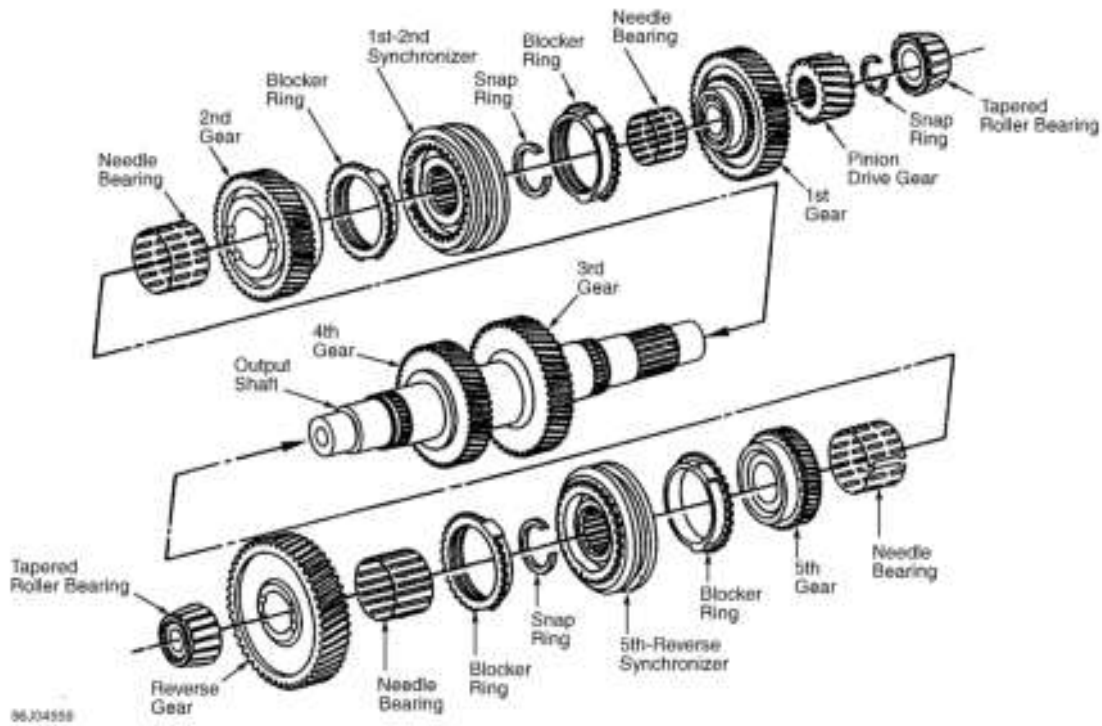

Fig. 6: Exploded View Of Output Shaft Assembly
1. Using a press and split clamp plate, remove tapered roller rear bearing from reverse gear end of shaft. Slide reverse gear, needle bearing and 5th-reverse synchronizer blocker ring from shaft. Remove 5th-reverse synchronizer snap ring. Slide synchronizer assembly, blocker ring, needle bearing and 5th gear from shaft. See **Fig. 6**.
3. Remove needle bearing and 1st gear synchronizer blocker ring. See **Fig. 6**. Remove 1st-2nd synchronizer snap ring. Slide 1st-2nd synchronizer assembly, blocker ring needle bearing and 2nd gear from shaft.